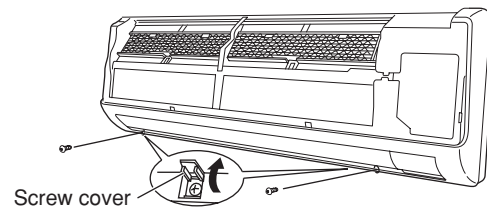

Fig. 16b
- (2) Remove the 2 screws. (Fig. 16b)
- (5) Affix the grille with the 2 previously removed screws. (Fig. 16b)
- (6) Install the air intake grille.